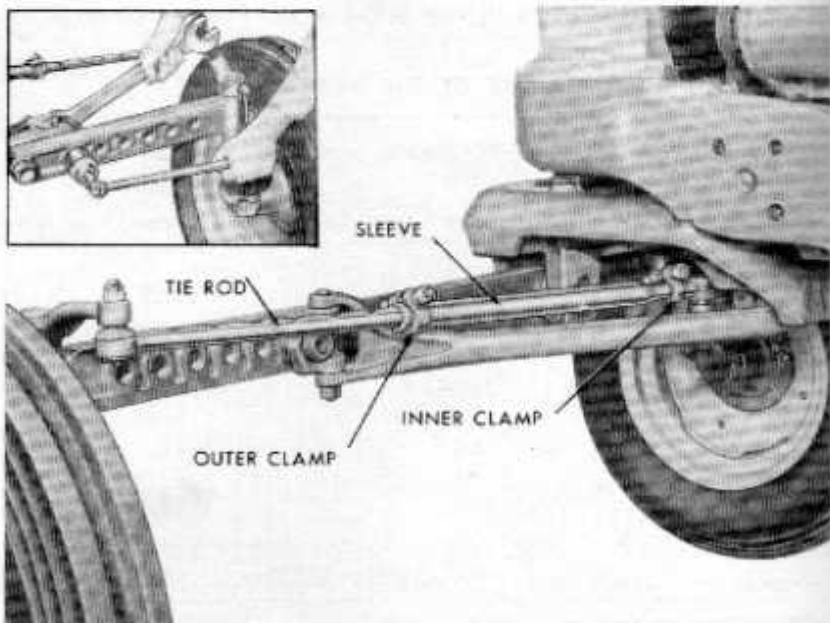
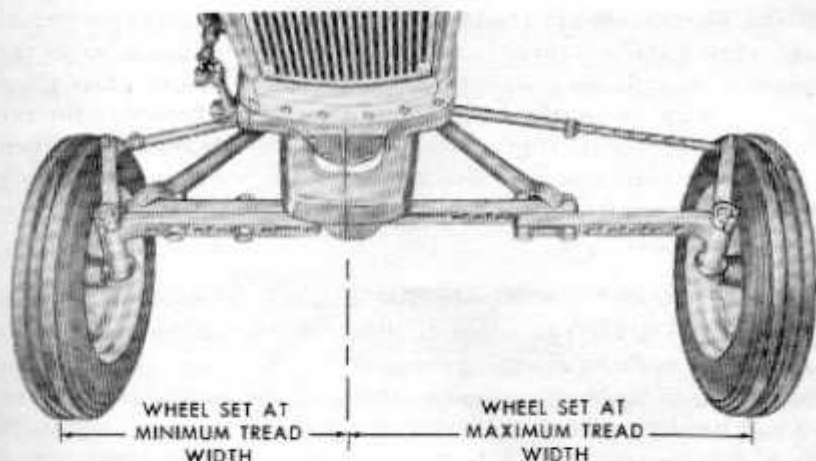

Figure 18
Figure 19
**Front Wheels, Adjustable Front Axle:** The front wheels are adjustable from 52 to 76 inches in approximately 4 inch spacings. To change the tread width, raise the front end of the tractor with a jack placed at the forward end of the transmission housing. Work on one axle section at a time and remove the hex head bolts, flat washers and nuts which hold the outer axle sections to the inner axle section. See insert to Figure 18. Next remove the hex head bolts, lockwashers and nuts from the outer clamps shown in Figure 18 to release each tie rod from the locked position in its sleeve. Position the front wheels and tie rods in or out until the desired tread width is obtained. Figure 19 shows the correct minimum and maximum wheel tread adjustments.
Position the front wheels straight ahead and align the hole in each outer clamp (see Figure 18) with the groove in each tie rod which is nearest the outer clamp hole. Align and insert the clamp bolts to lock the tie rods in the sleeves. Secure both outer clamps with the lockwashers and nuts previously removed.